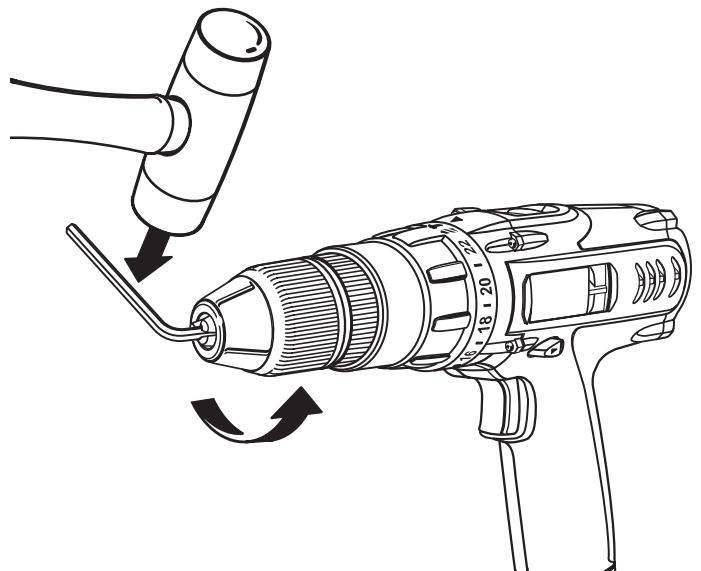

Fig. 19
- Insert the hex key in the chuck and tighten chuck jaws securely. Tap sharply with a mallet in a counterclockwise direction. This will loosen the chuck on the spindle. It can now be unscrewed by hand. *See Figure 19.*